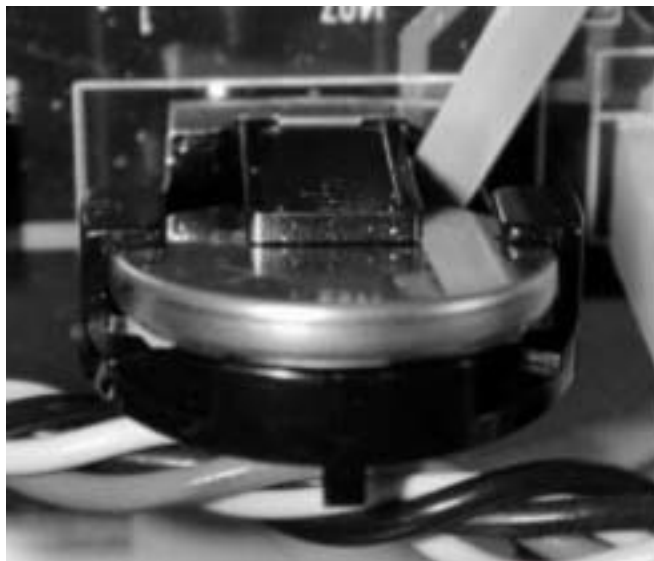

Figure A-2 Removing battery
3. Insert your fingernail, the plastic knife, or the pen cap behind and under the battery, and lift the battery out, as shown in Figure A-2.